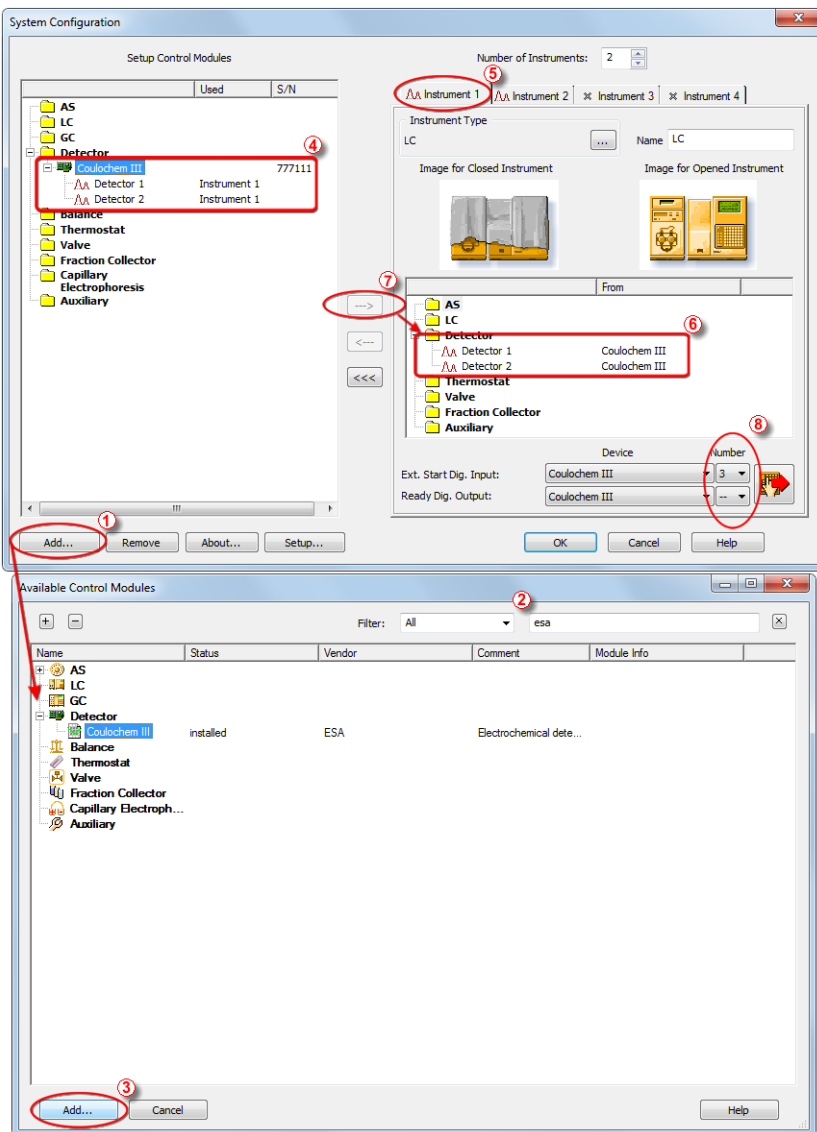

Fig 2: System Configuration
- Press the *Add* button ① (see **Fig 2** on pg 4.) to invoke the **Available Control Modules** dialog.
- You can specify the searching filter ② to simplify the finding of the driver.
- Select the **Coulochem III** detector and press the *Add* ③ button.